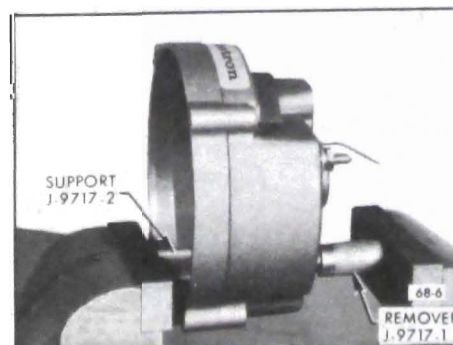

Figure 68-6--Removing a Diode
1. To remove a diode, place slip ring end frame in a vise so that Remover J-9717-1 bears against defective diode and Support J-9717-2 supports casting. Tighten vise to remove defective diode. See Figure 68-6.